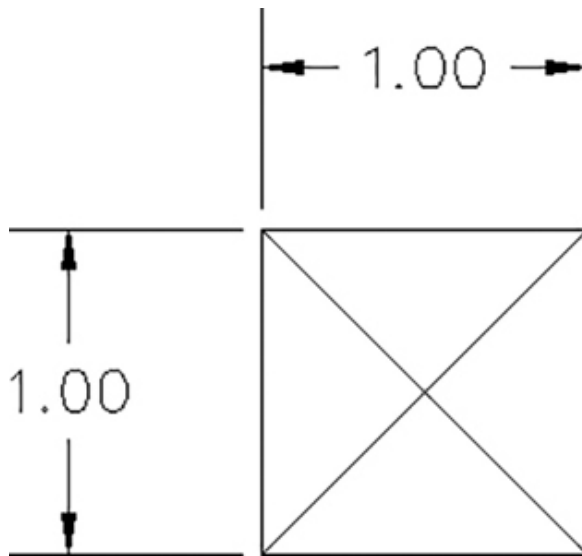

Figure 16-13
- 2 Create the unit block drawing shown in Figure 16-13.